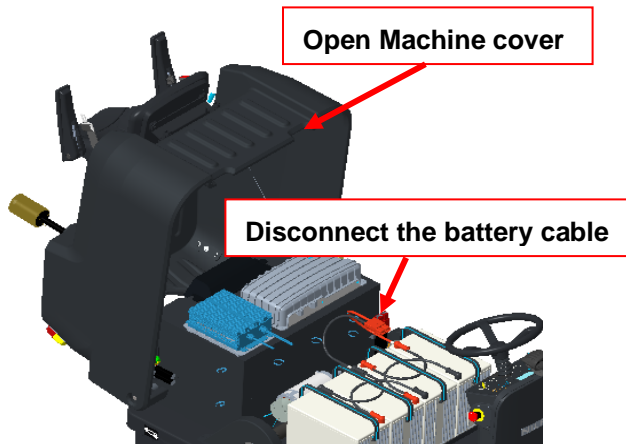

Figure 8
2. Open the machine cover, then disconnect battery power (Figure 8).